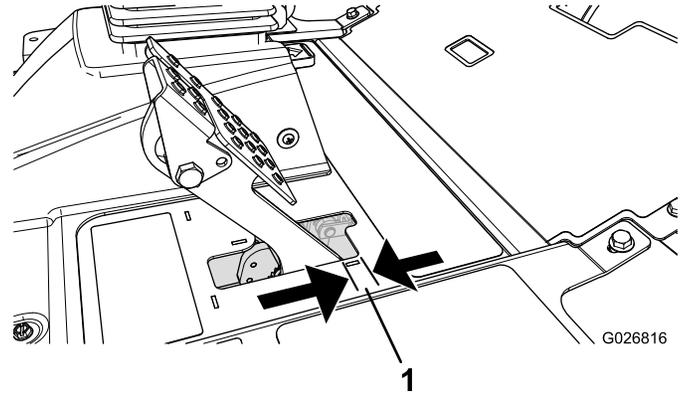

Figure 71
Adjust the brakes when there is more than 2.5 cm (1 inch) of free travel (Figure 71) of the brake pedal, or when more holding force is required. Free travel is the distance the brake pedal moves before you feel braking resistance.
2. Tighten the rear nut to move the cable backward until brake pedals have .63 to 1.27 cm (1/4 to 1/2 inch) of free travel (Figure 71), before wheel lock up is achieved.